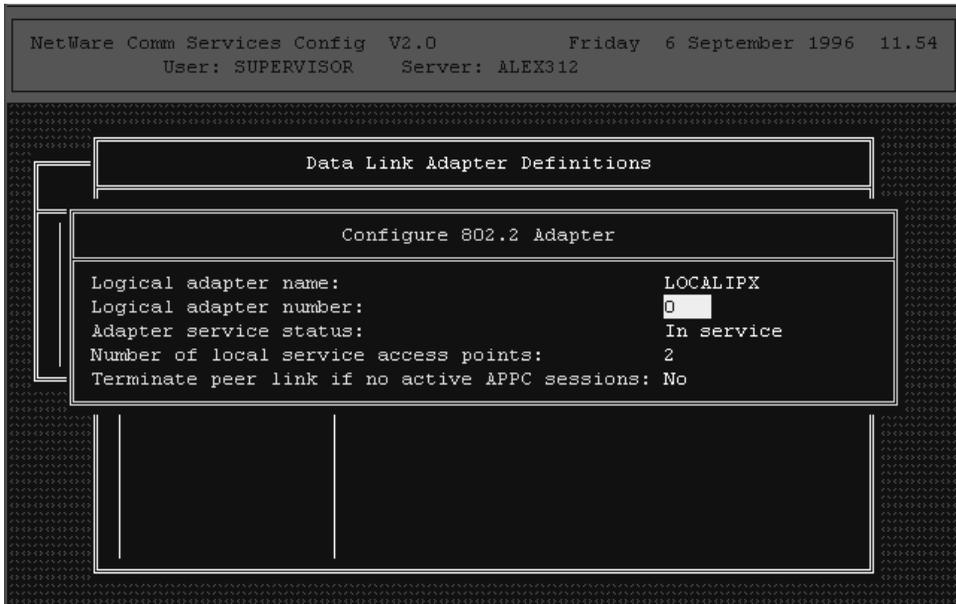

Figure 20. Specifying a Data Link Adapter
- 2 Select the data link adapter to be used for SNA communications. The NetWare for SAA displays the details about the selected adapter, as shown in Figure 20 on page 100.